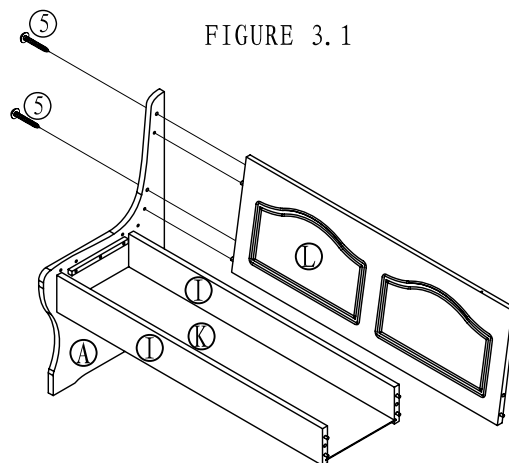

FIGURE 3.3
- 3.3 WITH MIDDLE LEG #A PLACED ON FLOOR. ATTACH DOUBLE BENCH BACK REST #L TO MIDDLE LEG #A. USING PRE-DRILLED HOLES AS GUIDE, USING (02) SCREWS ⑤ AND ① PHILLIPS HEAD SCREWDRIVER (NOT PROVIDED), AS SHOWN IN FIGURE 3.3